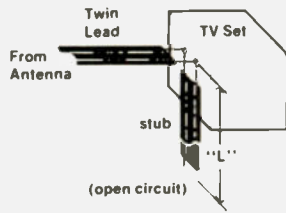

Fig. 7.
3. After connecting the stub, cut the unterminated end of the stub off in 1/8" to 1/4" sections until the interference is eliminated. Refer to Fig. 7. For harmonics falling on other TV channels, such as channel 5, 6, or 9, the length of the stub may be appropriately shortened according to the following formula.
2. In most cases, installation of an open circuit, quarter-wave, tuned stub at the antenna terminals of the television set should be effective. It should be connected as shown in Fig. 7.